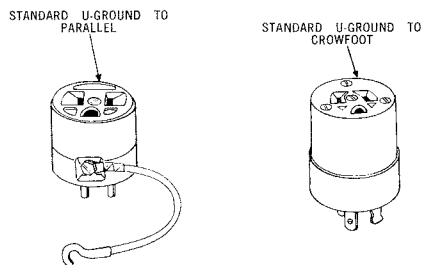
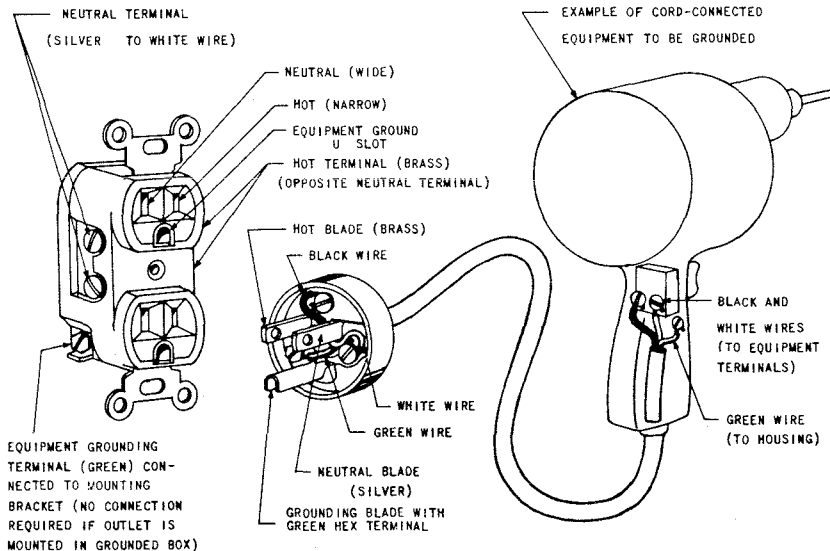

Fig. 5 — Adapters
Fig. 6 – Typical Bell Canada Arrangement
- 4.02 Except for the tools mentioned in Para. 4.01, the U-Ground plug is currently furnished as standard equipment with all Bell Canada tools. If commercial power receptacles of the 2-Conductor parallel or crowfoot types are encountered on the customer's premises, one of the appropriate adapters shall be used. (See Fig. 5)
tion of a U-Ground plug to a comparable U-Ground receptacle (See Fig. 6). If outlet has a crowfoot or 2-Conductor parallel receptacle, use appropriate adapter. (See Fig. 5).